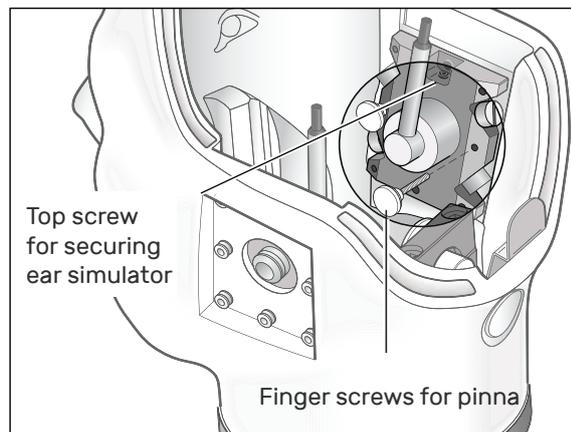

Fig. 40. The finger screws securing the pinna.
2. While pressing the pinna against KEMAR's head, secure the two finger screws, see Fig. 40.